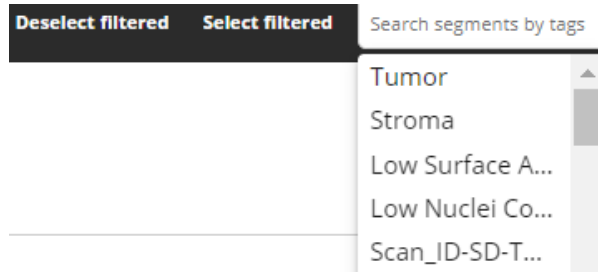

Figure 53: Selecting segments using segment picker buttons
1. Select only those segments of interest in the first Data Analysis pane (see Figure 53).